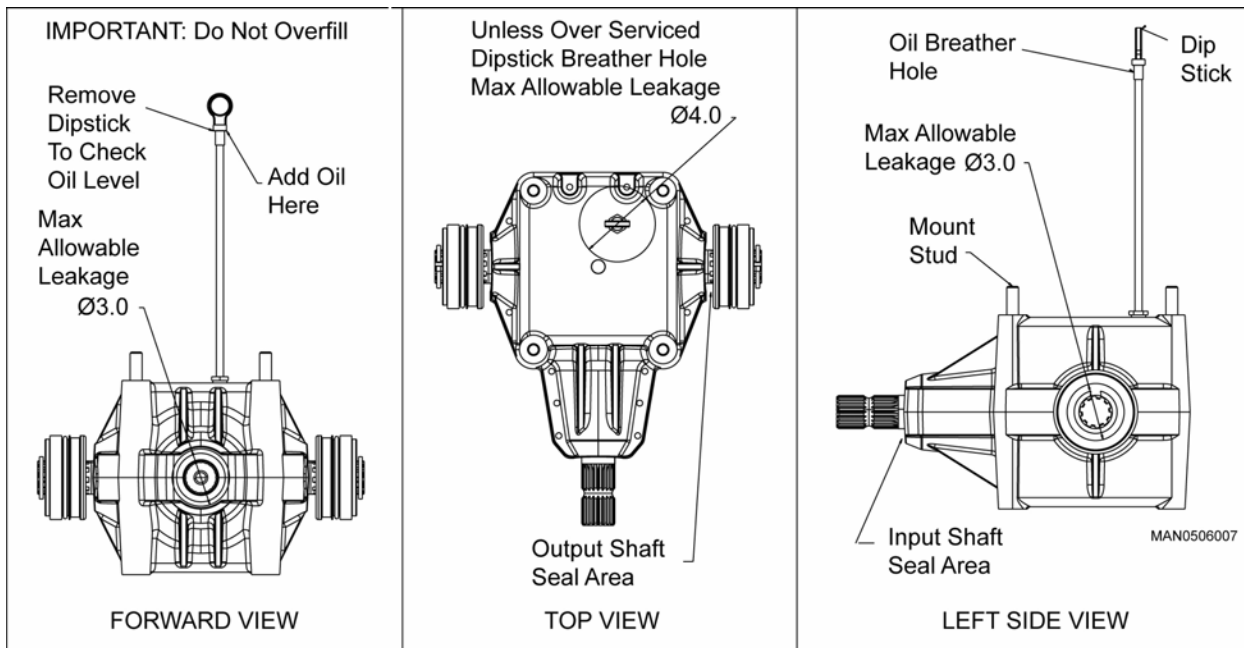

Figure 34. Acceptable Oil Leakage
1. Oil covers less than a 3-inch diameter circle around the shaft seal area (see Figure 34).
2. Oil covers less than a 4-inch diameter circle around the dipstick tube (see Figure 34).